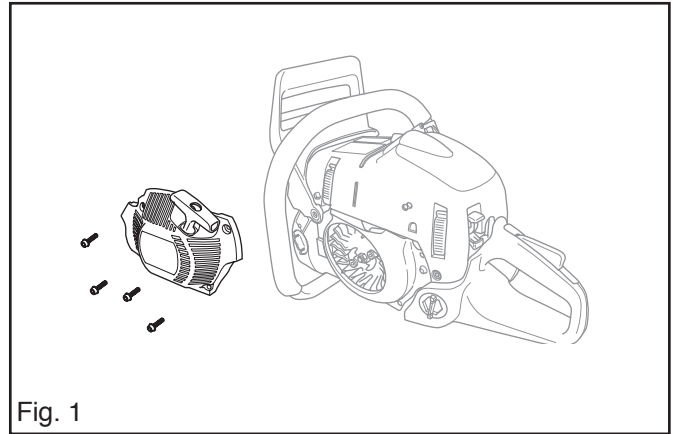

Fig. 1
1. Remove the four bolts holding the starter to the crankcase and remove the starter. See fig. 1.
8. Fit the starter on the crankcase. Tighten the bolts to 4 Nm. See fig. 1.
2. Release the lead (A) (which connects to the stop button) from the ignition module (B). See fig. 1.
3. Remove the ignition cable (C) from the spark plug and release both cables from the cable guide, and lift off the cable guide. See fig. 1.
4. Remove the two M5 bolts (D) and lift off the ignition module (B). See fig. 1.
5. Remove the two pawls (E) for the starter. See fig. 1.